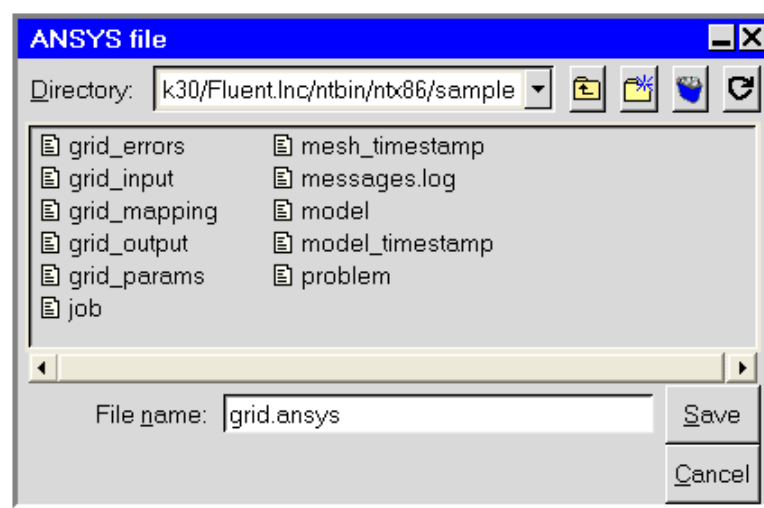

Figure 26.11.3: The ANSYS file Panel
1. In the Export tab of the Mesh control panel, click Export as Ansys grid file. This will open the ANSYS file panel (Figure 26.11.3).